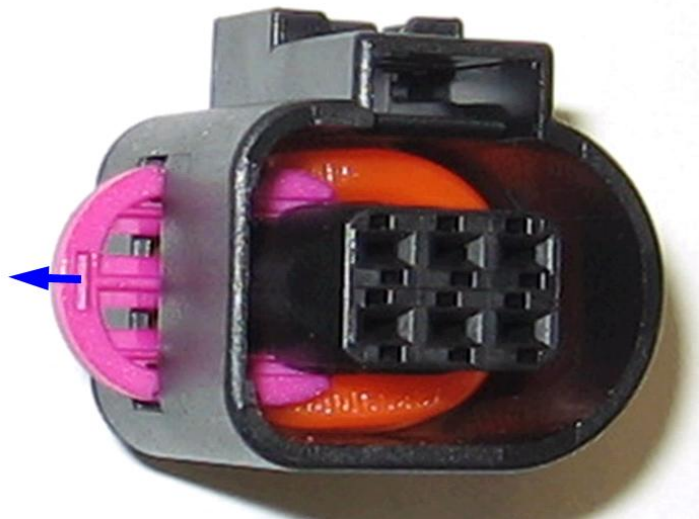

Figure 2. The slot to be used to remove the pink lock.
4. On the new housing, remove pink lock with small flathead screwdriver, using the slot on the pink lock (Figure 2).